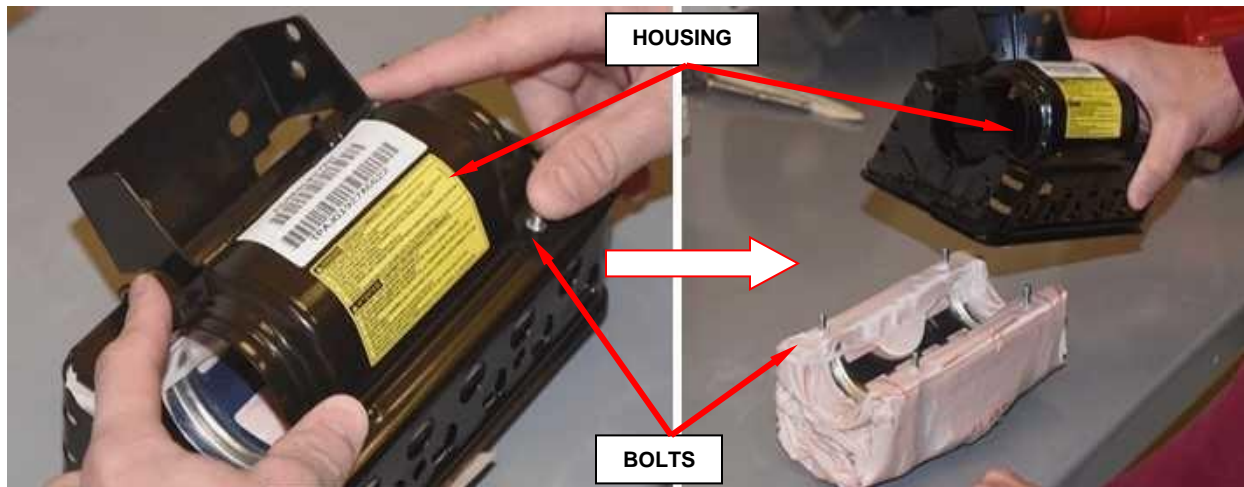

Figure 67 - Remove Airbag Cushion from Housing
- g. Remove airbag cushion from housing by applying pressure to the bolts, set cushion aside (Figure 67).